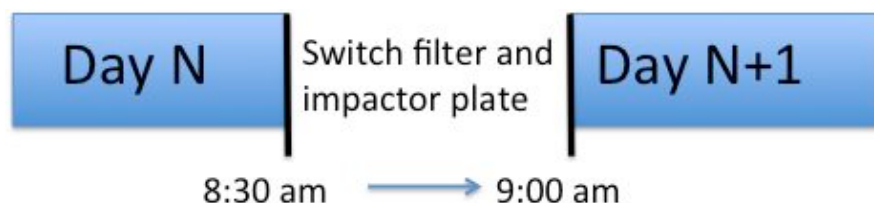

Figure 1: Photo of how to attach the flow adaptor to the HI inlet to measure the flow
2. Open the pelican case. Remove HI and Leland Legacy pump from the pelican case. Remove the HI sampling inlet and attach the flow adaptor (**Figure 1**) and tubing. Attach flow adaptor tubing to the TOP outlet of the Omega rotameter. If the weather is bad (e.g. windy, raining) protect the equipment.
4. Remove the sampling inlet (uppermost part; leave inlet inside the clean bag) of the Harvard Impactor, and replace with the flow adaptor (**Figure 1**). Attach flow adapter tubing to the TOP outlet of the rotameter.